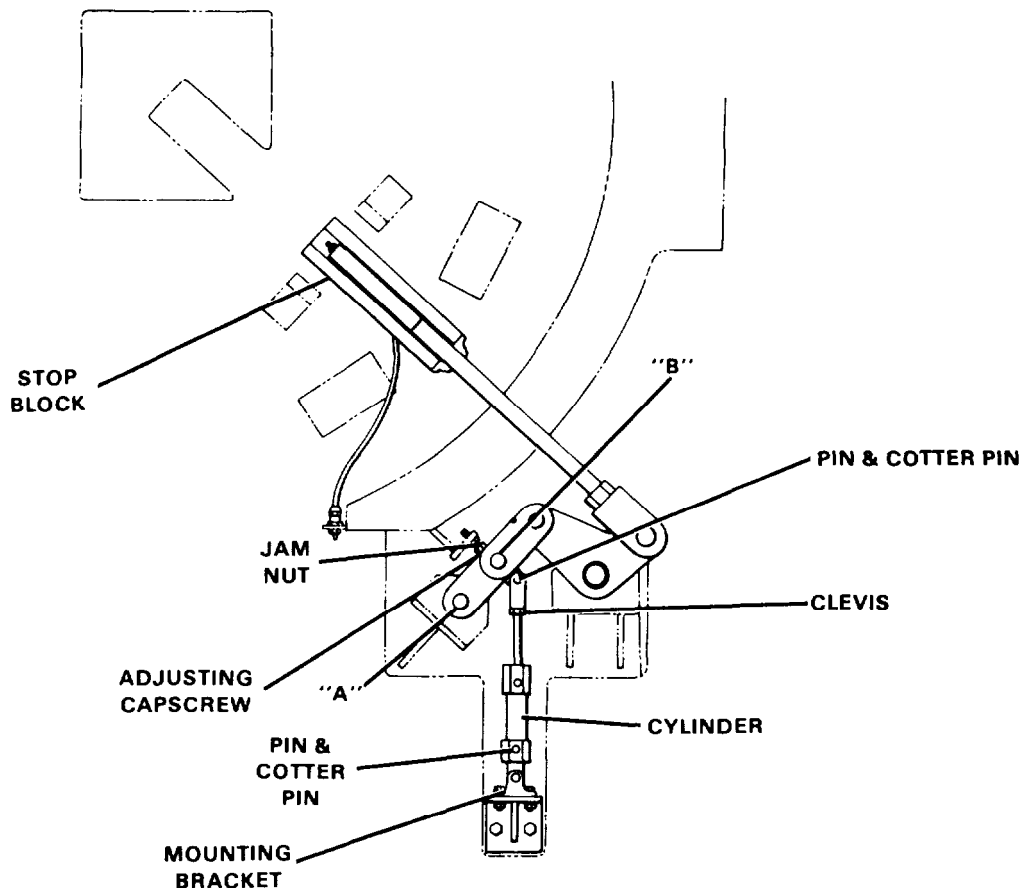

Figure 5D-9. Swing Lock Cylinder (36Z434)
**REPLACEMENT.** To replace the swing lock cylinder, proceed as follows (see Figure 5D-9):